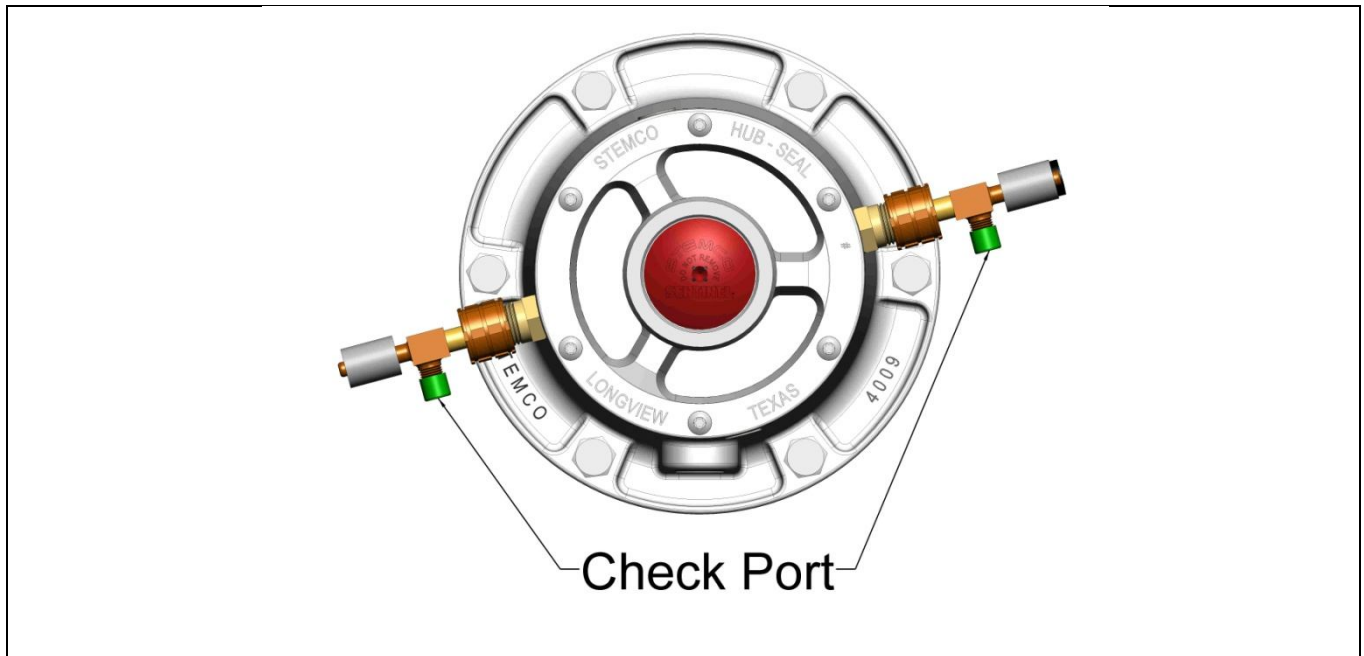

Figure 35
- Remove the metal cap from the check port that is provided on each hose. See Figure 35